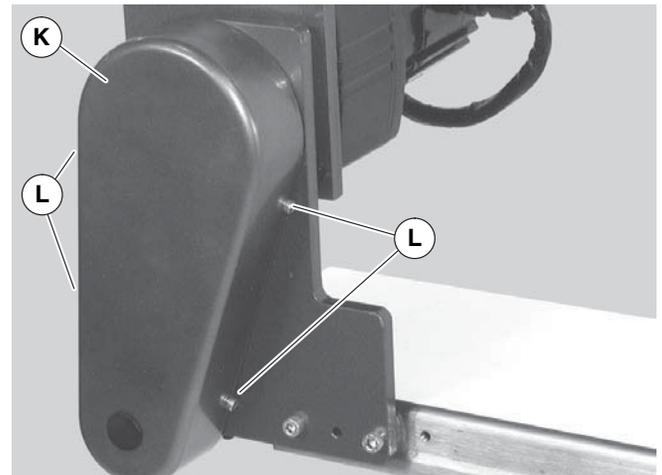

Figure 13
- Install cover (Figure 13, item K) with four screws (L). Tighten to 35 in-lb (4 N-m).
- Remove four screws (Figure 13, item L) and remove cover (K).
4. Remove four screws (Figure 13, item L) and remove cover (K).